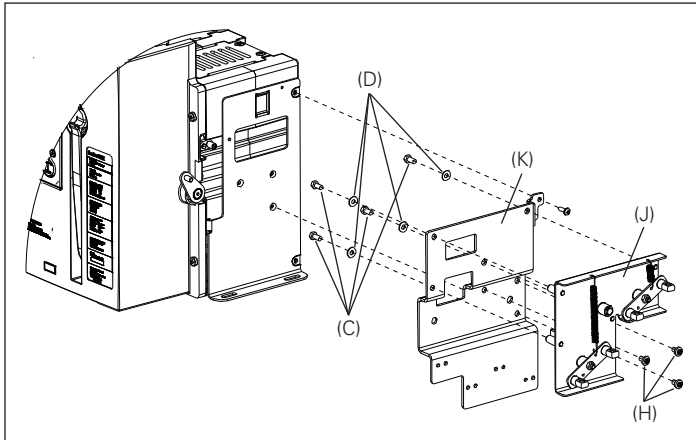

Figure 7. Details for Step 5
Fasten the interlock assembly (J) to the fixed mounting bracket (K) using four M6 x 12 mm hex bolts (C) and four lock washers (D) as shown in **Figure 7**. Torque to 4,5–5,6 N·m (40–50 in-lb).
Re-install M5 x 12 mm screw as shown in **Figure 7**. Torque to 2,2 N·m (20 in-lb).